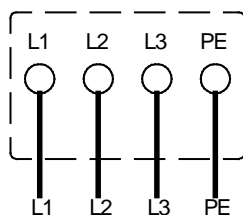

Fig. 15 Circuit diagram(s) of three-phase motor
- Prior to connecting the pipes, remove the plastic caps on the suction and pressure sockets of the pump (see Fig. 15).